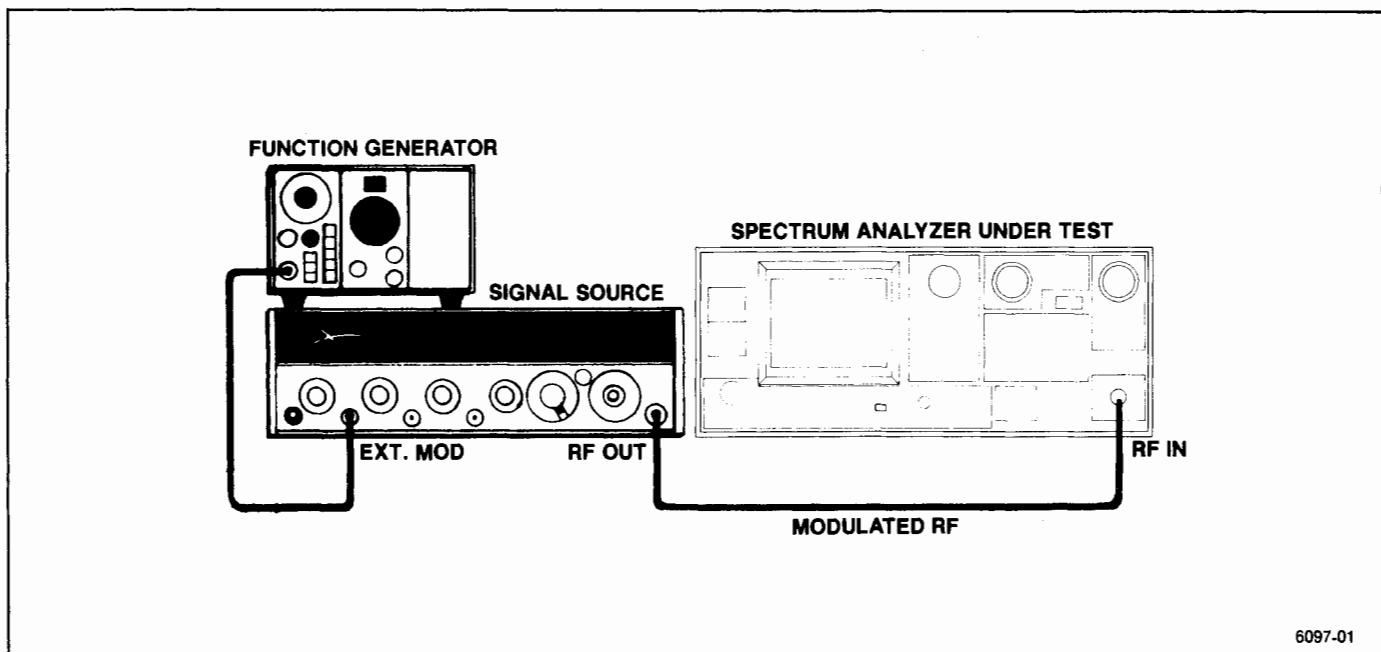

Figure 4-18. Test equipment setup for checking internal trigger characteristics.
a. Connect the test equipment as shown in Figure 4-18.